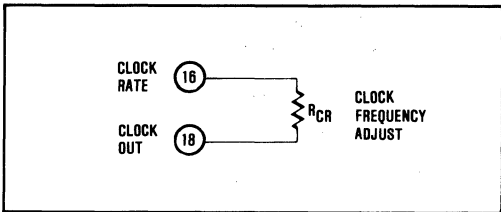

FIGURE 8. Optional Clock Rate Adjust for Faster Conversion Times.
If adjustment of the clock rate is desired for faster conversion times, a resistor may be connected between Clock Rate (pin 16) and Clock Out (pin 18) as shown in Figure 8.
NOTE: (1) Adjust Conversion Time with Clock Rate Control resistor as shown in Figures 8 and 9.